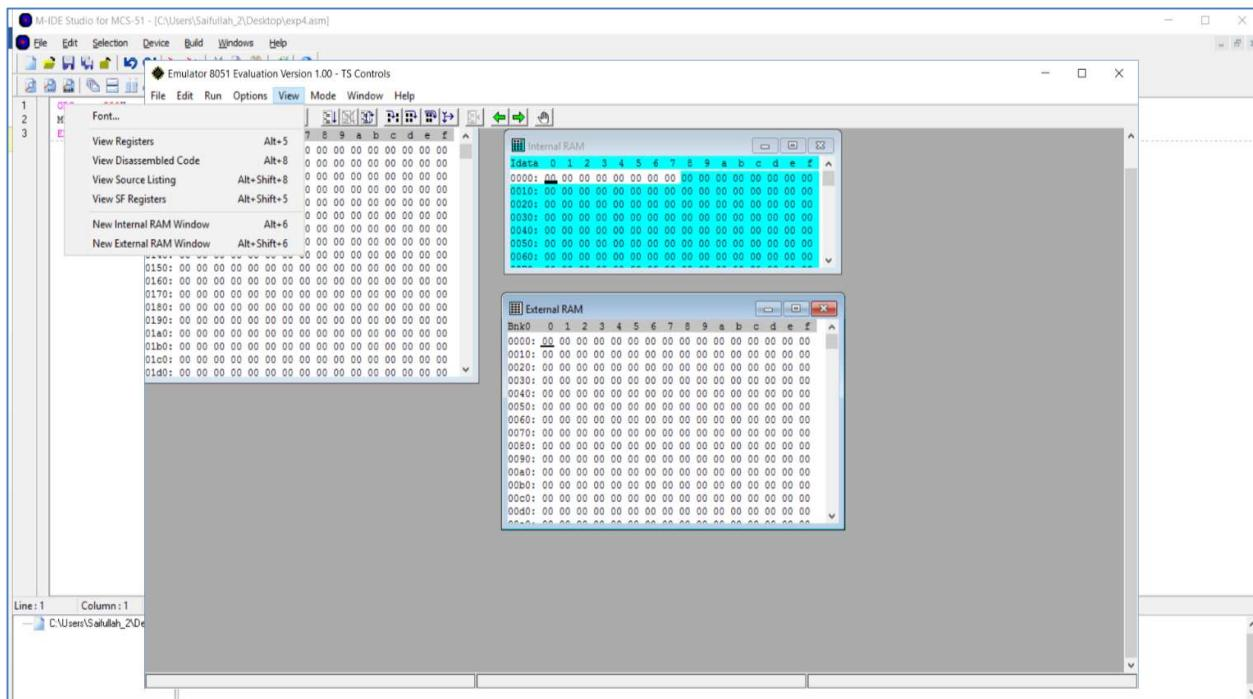

Figure 4.7: Opening Different Windows
- Now open the various windows by clicking “View” from the menu bar as shown in Figure 4.7 to get familiar with them. You may need these windows in future experiments.